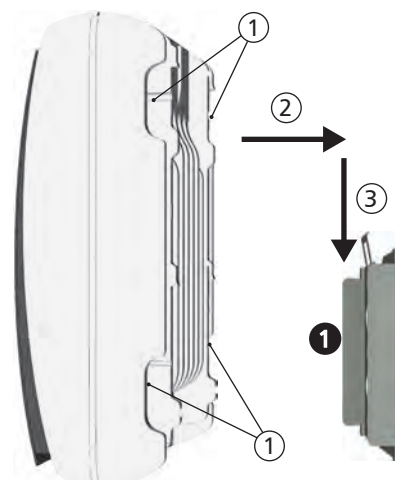

Figure 39
1. Grasp the inverter by the recesses ①, position it ① in the middle of the mounting plate ② and press lightly (Figure 39).
2. Lower the inverter into place ③ until the retaining plate on the mounting plate clicks audibly into place. The hooks on the rear side of the inverter must slide over matching protrusions on the mounting plate.